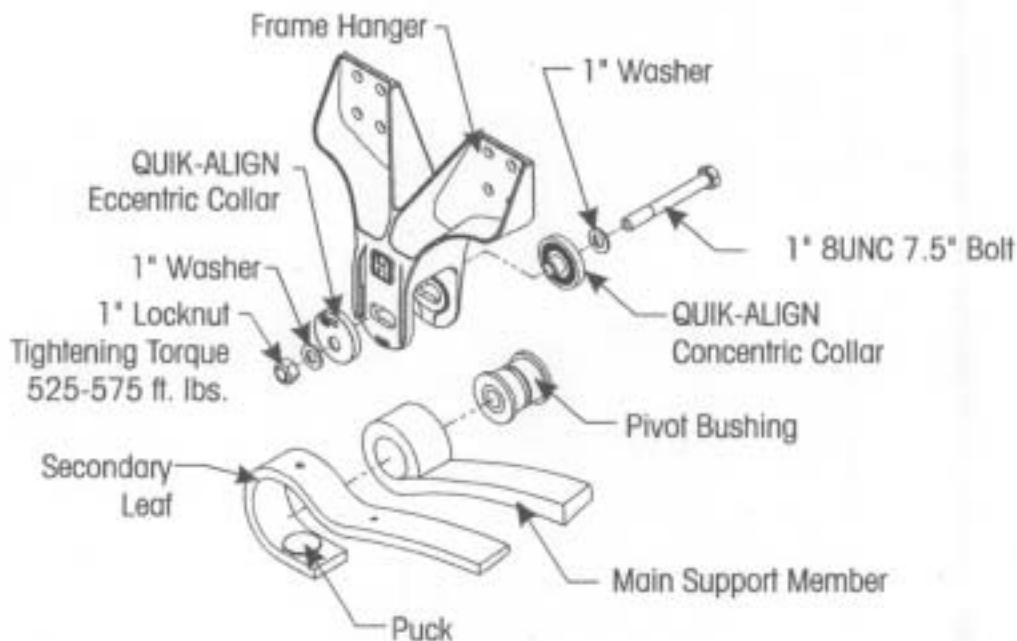

Figure 6.2
- Loosen the left pivot bolt locknut to snug (100 foot pounds). See **Figure 6.2**. This will hold the eccentric flanged washer in place against the hanger face, and within the adjustment guide, but loose enough to permit the eccentric flanged washer to rotate freely.